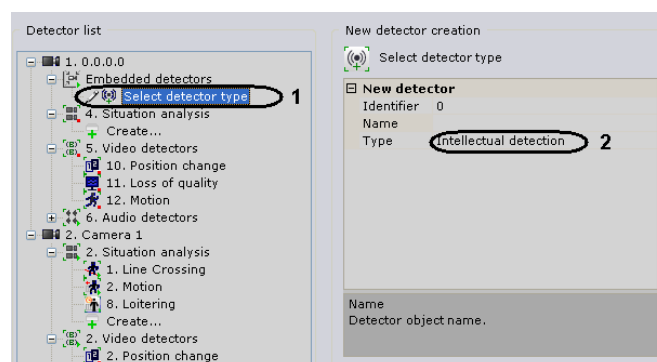

Fig. 6.4—20 Creating a Sony Ipela detector
2. Highlight the **Select detector type** link which appears (see Fig. 6.4—20, 1).